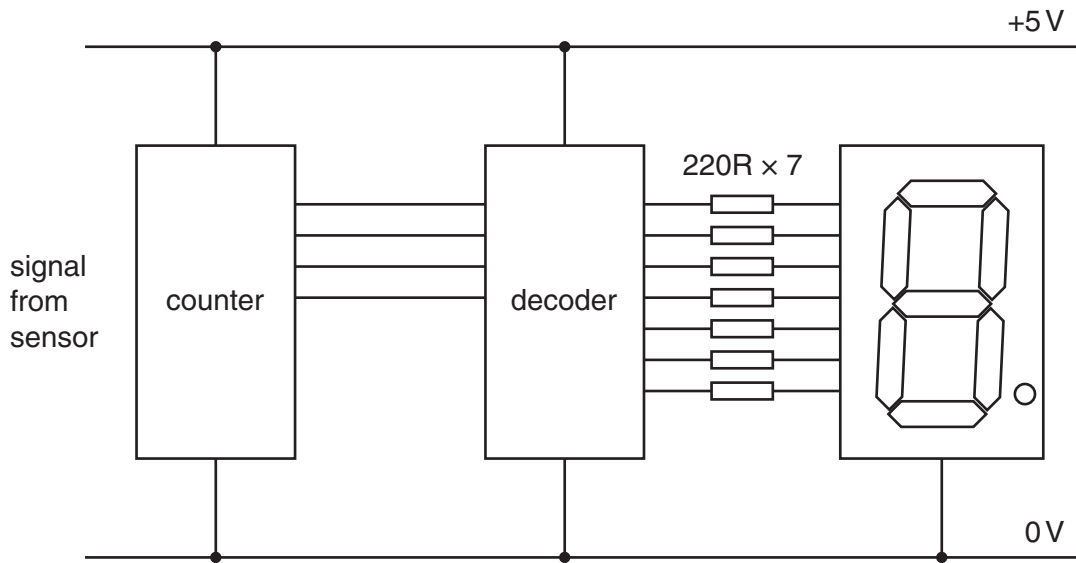

Fig. 5
- 2 A system to count the number of birds entering a nesting box is shown in Fig. 5. The system uses a counter IC and a decoder IC to drive a seven segment LED display.